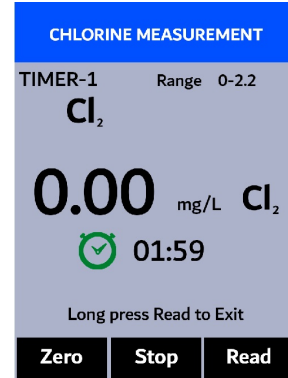

Figure 40.
8. The SP-710 will continuously display the free or total chlorine concentration as the timer counts down (Figure 40). If the real-time readings remain steady, press **Stop** (  ) to stop measurement timer early or wait for the 2-minute timer to end.